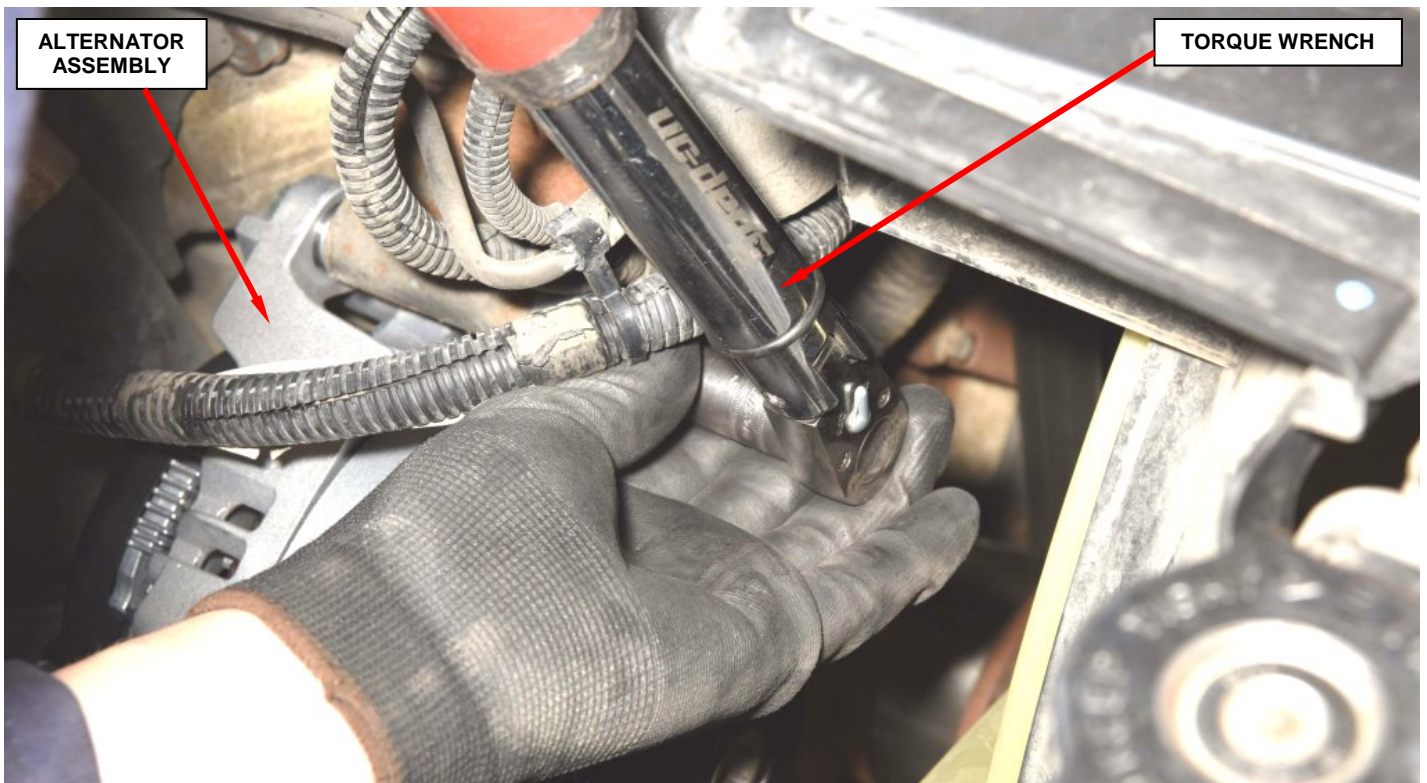

Figure 7 – Tighten Mounting Bolts to Specifications
9. Install the two alternator retaining bolts and tighten them to 35 ft. lbs. (48 N·m) (Figure 7).